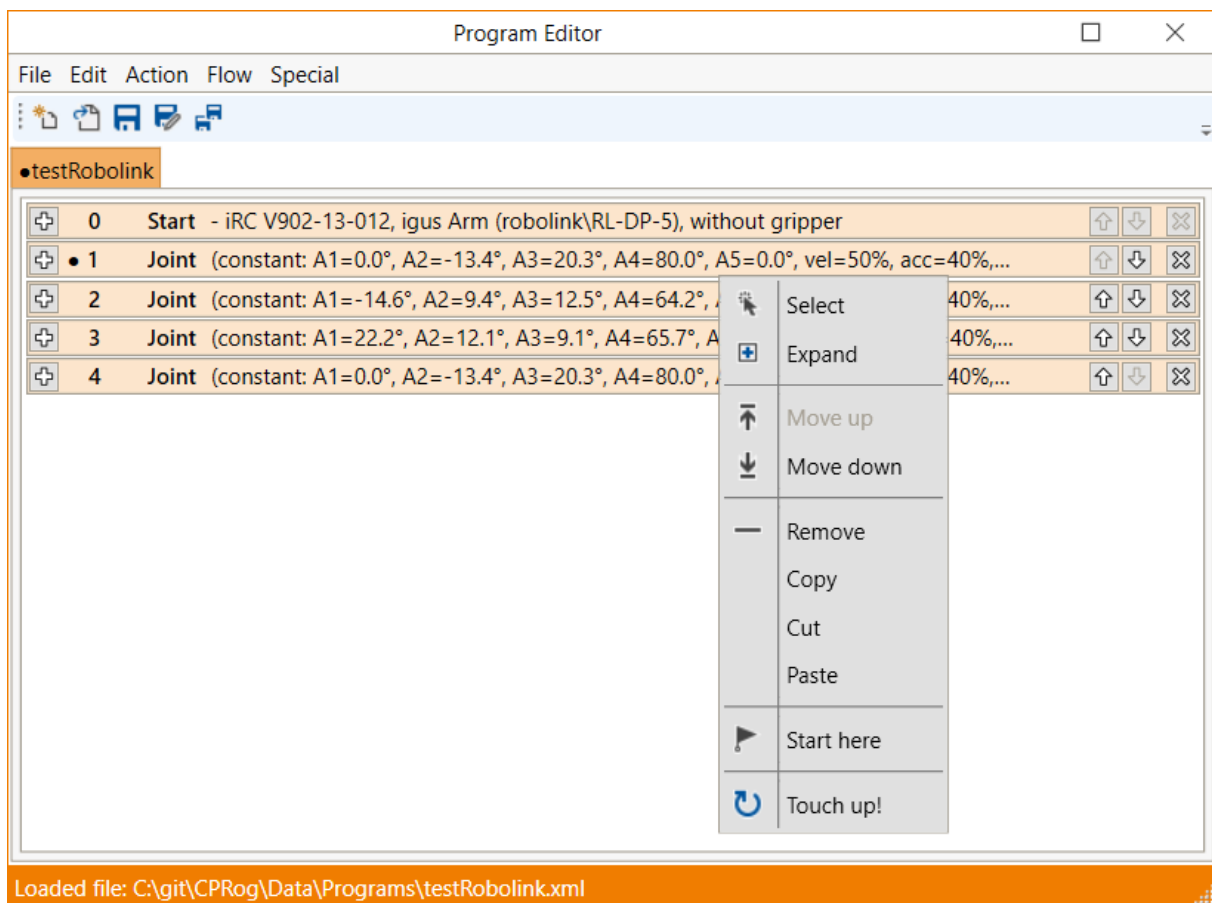

Figure 15: The context menu of a command
To move a command, use the arrows on the right side of the command line. Alternatively, you can click "Down" or "Up" from the command context menu (see Fig. 15).
- Open the context menu by right-clicking on the command and click on "Touch Up!" (see Fig. 15).
To select a specific command as the starting point for execution, click on "Start Here" in the context menu (see Fig. 15).